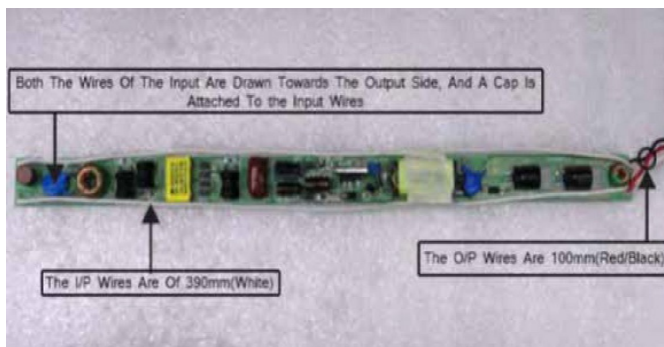

Fig. 6.19: Driver Unit
4. Place the tube light driver into the oven with the sleeve for protection as shown in Figure 6.19.